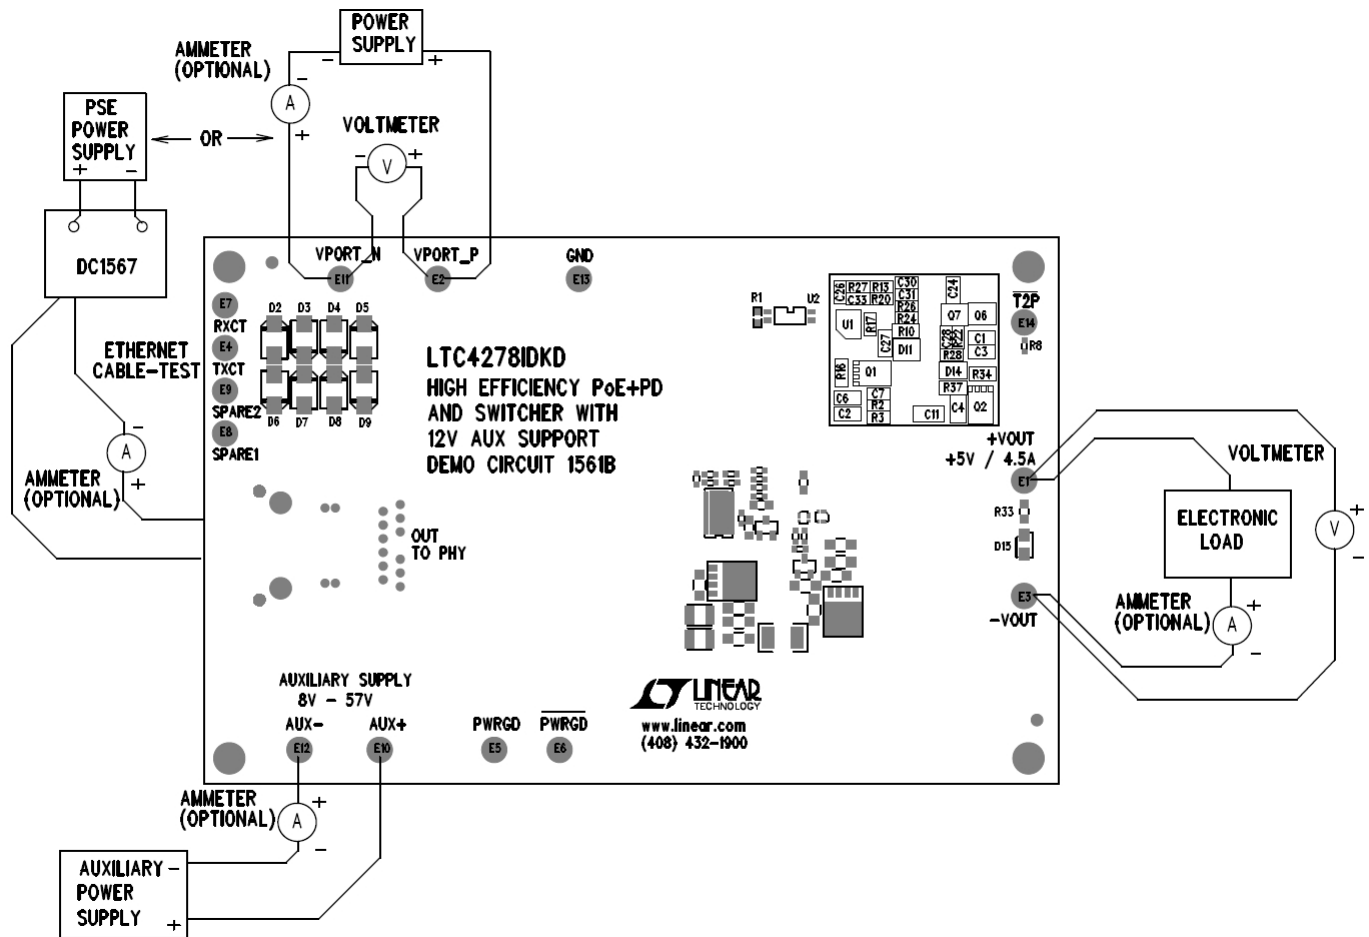

Figure 1. Proper Measurement Equipment Setup
Demonstration circuit 1561B is easy to set up to evaluate the performance of the LTC4278 in a PoE+ PD application. Refer to Figure 1 for proper equipment setup and follow the procedure below:
- a. Connect a PoE+ capable PSE, like the DC1567, with an Ethernet cable to the RJ45 connector, J1. See Figure 1.
- b. Or, connect a 37V to 57V capable power supply (Power Supply in Figure 1) across VPORT_P and VPORT_N.
- c. Or, if evaluating the auxiliary power supply capability, connect a 9V to 57V at 4A capable power supply across AUX+ to AUX– (Auxiliary Supply in Figure 1).